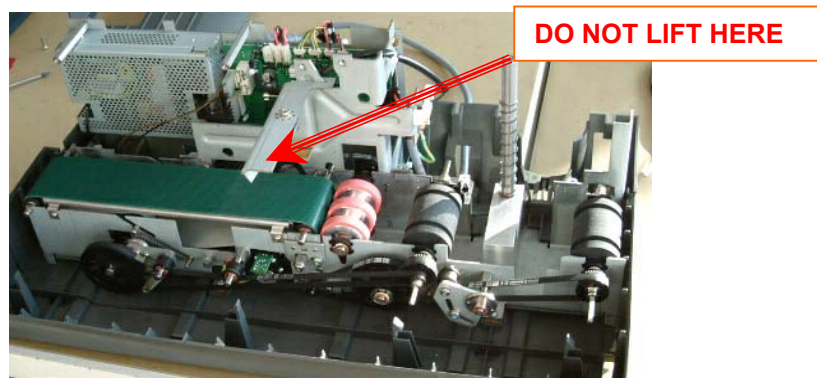

Fig.28
- Lift up on the frame from the front, and slide frame forward, then remove the frame from the lower housing. Do not lift from the upper separating arm (Fig.28)